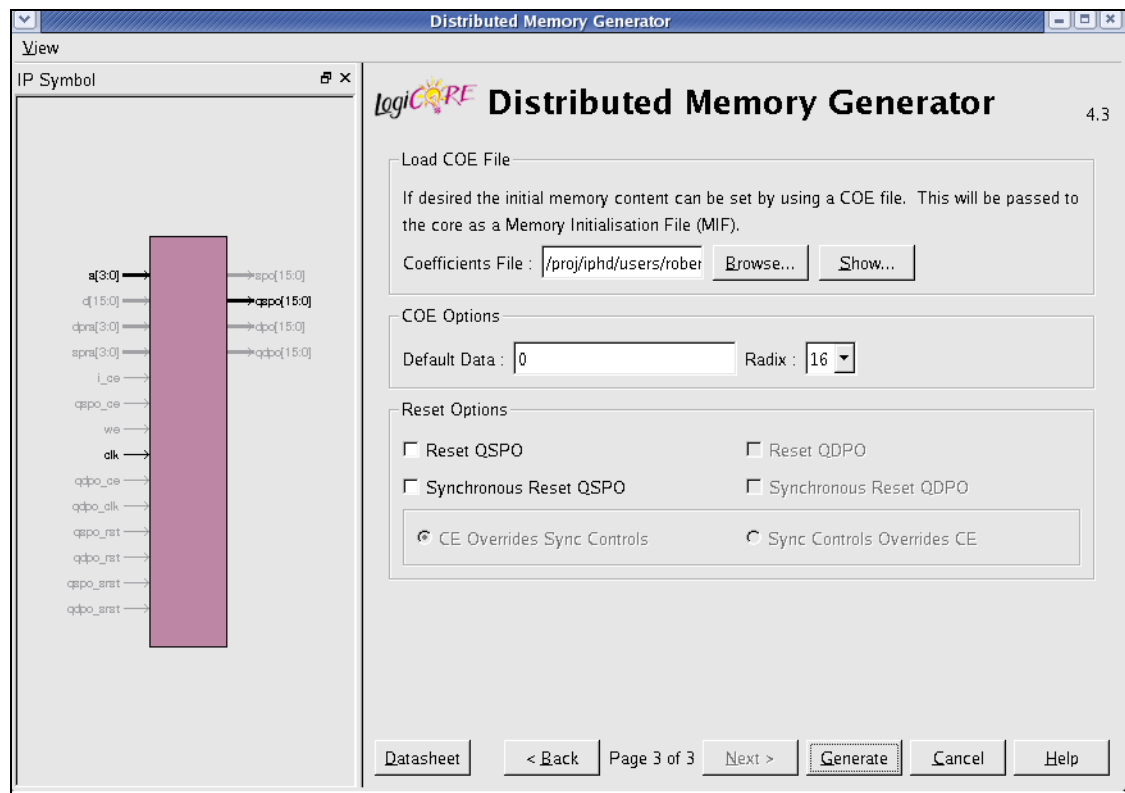

Figure 13: Initial Content and Reset Options Screen
- Initial Content and Reset Options Screen (Figure 13)